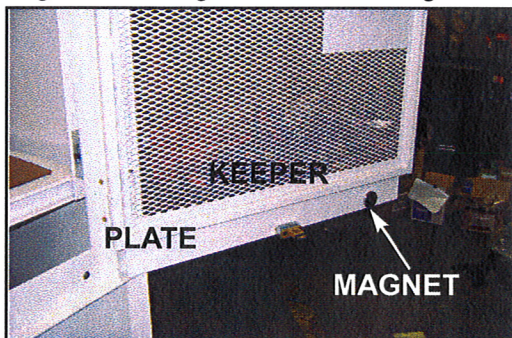

Figure 11
1. Adjust plate up and down or interlock keeper left or right to align into interlock. Adjust magnet to hold gate shut. See Figure 11.